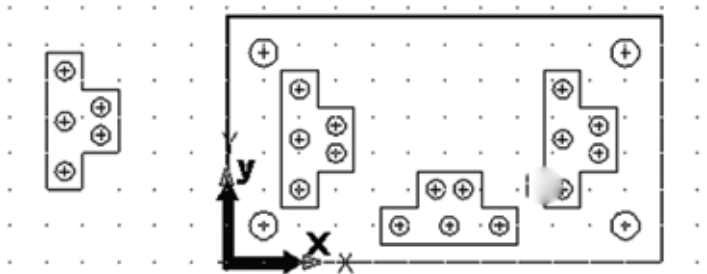

Figure 8.6
- Your drawing should now look like Figure 8.6.